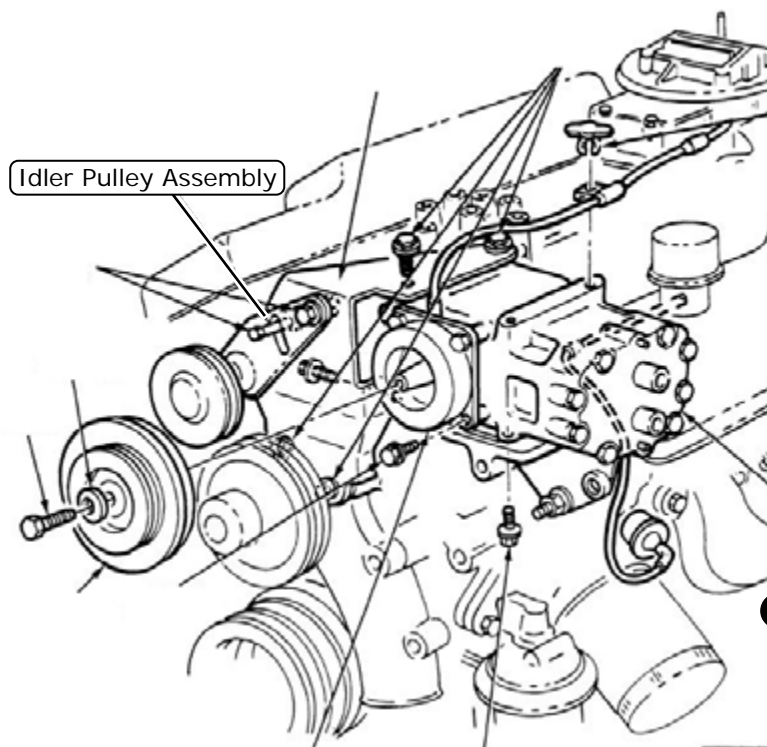

Figure 1
4. Remove the A/C compressor belt by loosening the idler pulley assembly (See Figure 1, below).
1. Insert (3) 7/16-14 x 6" hex bolts with (3) 7/16" flat washers through the power steering bracket and into the compressor bracket. Insure that the power steering bracket is in the orientation shown (See Figure 1, below).